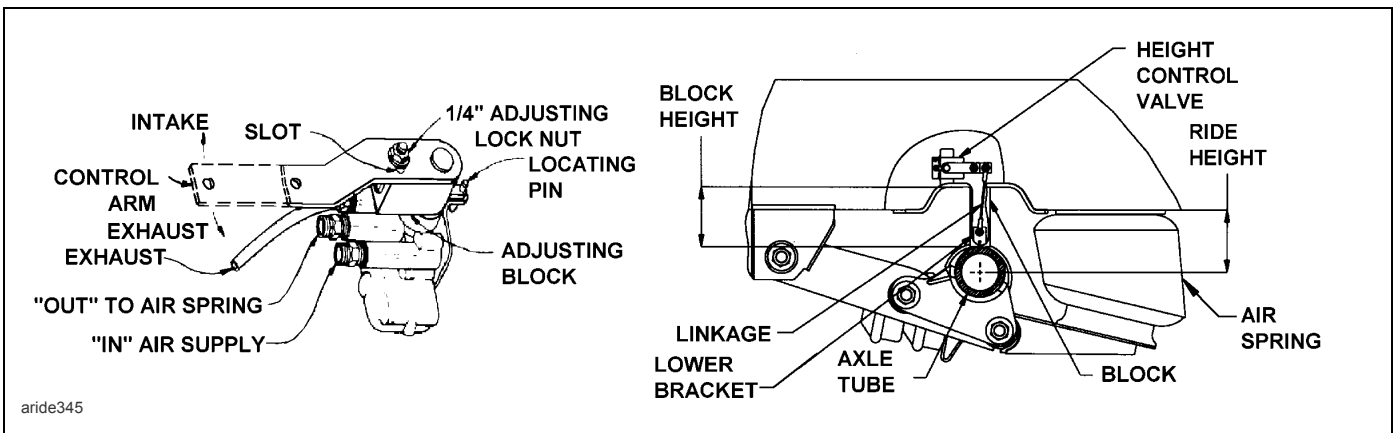

Figure 4-6: Air Ride Height Adjustment
2. Disconnect linkage at the control arm and raise control arm to the "up" position, raising the trailer until a block can be placed between axle tube and undercarriage frame **(See Figure 4-6.)**
6. Loosen the 1/4" adjusting lock nut located on the adjusting block, allowing the control arm to move approximately 1 inch. Move the adjusting block until holes align, then insert locating pin. **(See Figure 4-6.)**